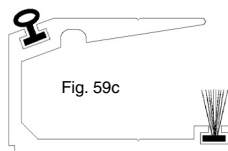

Fig. 59c
- Insert the brush and the rubber profile into the appropriate channels of the sealing section (Fig. 59c)